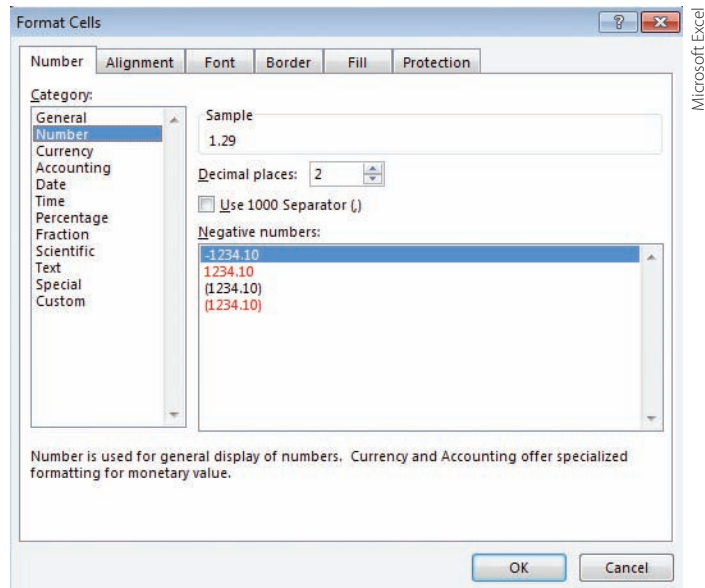

FIGURE 14.7
7. Pick cells B5: B15, right-click, and pick **Format Cells**. Change the number of decimal places to 2, as shown in Figure 14.7.